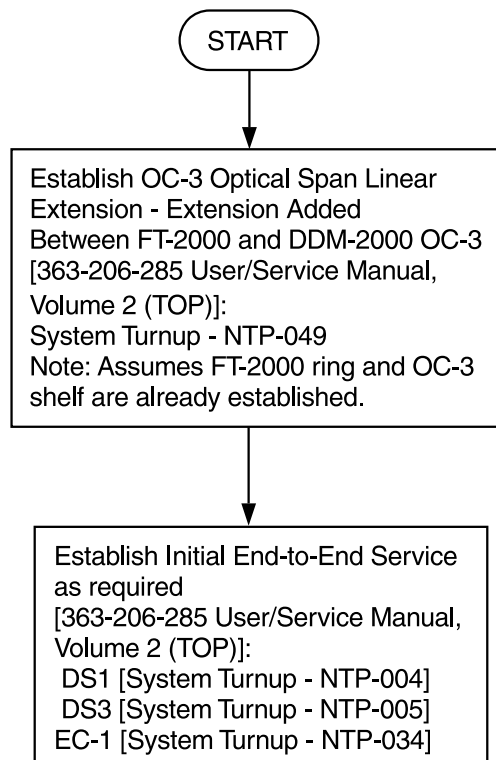

Figure 8. DDM-2000/FT-2000 Large Network Configurations — OC-3 Optical Span Linear Extension Between FT-2000 and DDM-2000 OC-3
- Figure 8 OC-3 Optical Extension Between FT-2000 and DDM-2000 OC-3